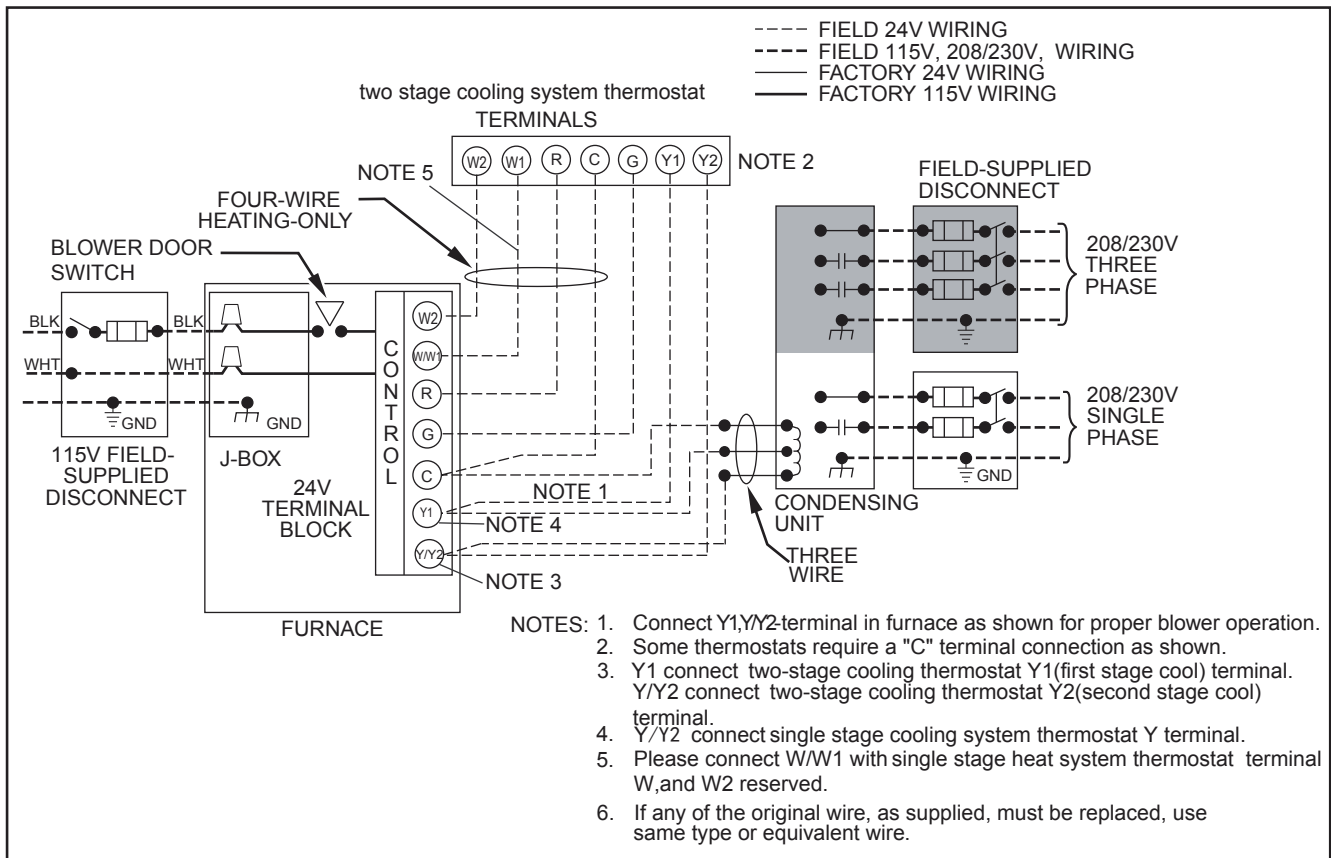

Fig.33 - Heating and Cooling Application Wiring Diagram with 2-Stage heatingThermostat
5. Connect line voltage leads as shown in Fig. 33.
12. Complete electrical box wiring and installation. Connect line voltage leads as shown in Fig. 33. Use best practices (NEC in U.S. and CSA C22.1 in Canada) for wire bushings, strain relief, etc.
1. Maintain 115V wiring and ground. Improper polarity will result in rapid flashing LED and no furnace operation. (See Fig. 33)
2. Make thermostat wire connections at the 24-V terminal block on the furnace control. Failure to make proper connections will result in improper operation. (See Fig. 33)